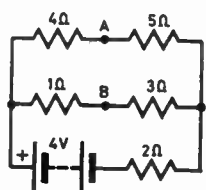

Fig. 8.7. Circuit for Problem 2.
2. In the circuit of Fig. 8.7 find the currents in each branch and the current supplied by the battery. What is the p.d. between the points A and B? (Use Kirchhoff).